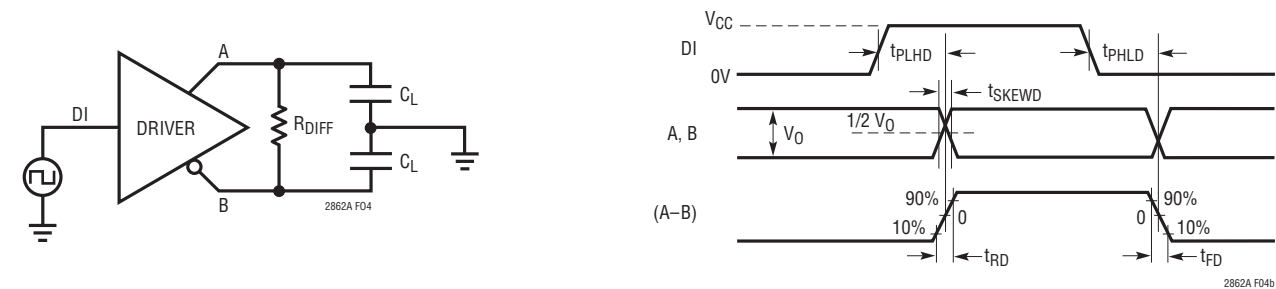

Figure 4. Driver Timing Measurement
- IEC 61000-4-2 Edition 2.0 2008-12 ESD Level 4: ±8kV contact (A or B to GND, direct discharge to bus pins with transceiver and protection circuit mounted on a test card with a low impedance ground discharge path from board GND to ESD gun return lead, per Figure 4 of the standard)
- IEC 61000-4-2 ESD Level 4:  $\pm 30$ kV contact,  $\pm 30$ kV air (line to GND, direct discharge to bus pins with transceiver and protection circuit mounted on a ground referenced test card per Figure 4 of the standard)